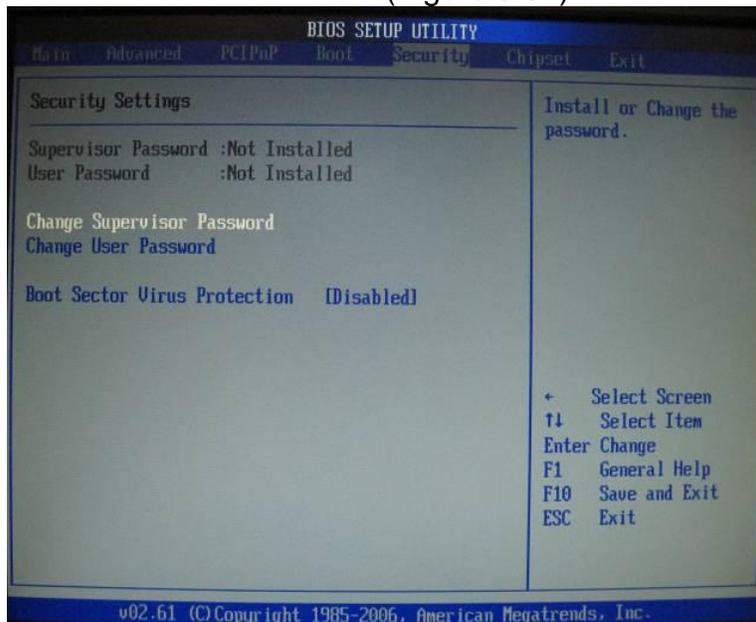

Figure 8-52 Security Screen
42. On the **Boot Settings** screen scroll across to **Security**. **No changes** are necessary. (Figure 8-52).